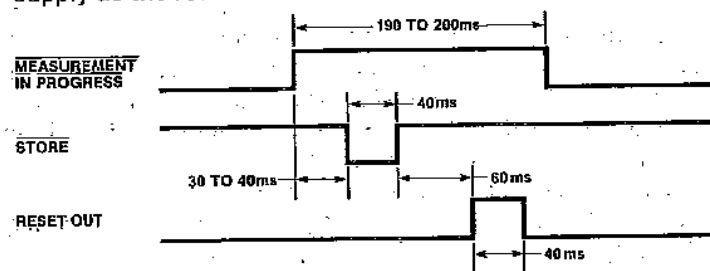

Figure 5: RESET OUT, STORE, and MEASUREMENT IN PROGRESS
**MEASUREMENT IN PROGRESS, STORE AND RESET Outputs** - These Outputs are provided to facilitate external interfacing. Figure 5 shows the relationship between these signals during the time between measurements. All three outputs can drive a low power Schottky TTL load. The MEASUREMENT IN PROGRESS output can directly drive one ECL load, if the ECL device is powered from the same power supply as the ICM7226.